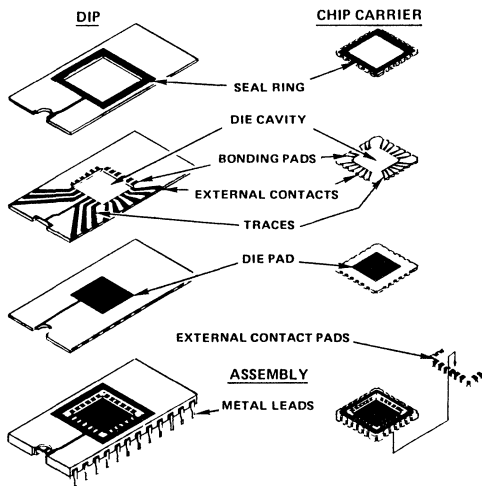

FIGURE 1. EXPLODED VIEW OF CHIP CARRIER AND DIP
Harris Semiconductor offers Leadless Chip Carriers (LCC) as a packaging option on various Digital integrated circuits. An LCC is a square or rectangular package for an Integrated Circuit (IC) that is manufactured in the same manner as a conventional side-braze dual-in-line package (DIP). The LCC is comprised of the cavity and seal ring section of a standard DIP and offers the user a means of achieving high density system configurations while retaining the reliability benefits of hermetic IC Packaging. Figure 1 provides a comparison of the construction of an LCC and a conventional side-braze DIP.